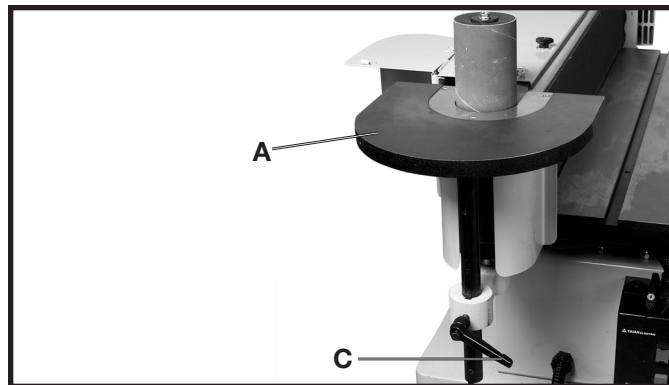

Fig. 43
1. The table (A) Fig. 43, can be moved up or down.
2. Loosen ratchet handle (C) Fig. 43, move table (A) to desired position and tighten handle (C).